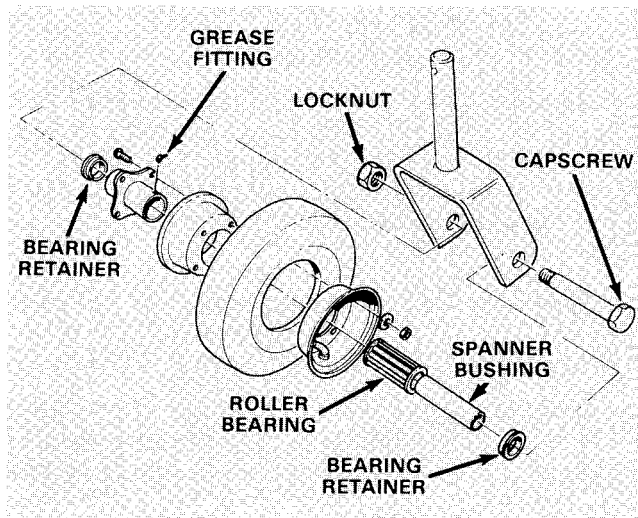

Figure 8
1. Remove locknut from capscrew holding castor wheel assembly between castor fork (Fig. 8). Grasp castor wheel and slide capscrew out of fork.
- Note:** Account for the two bearing retainers (Fig. 8).
2. Tip wheel to the side and allow roller bearing and spanner bushing to fall out (Fig. 8).
6. Pump more grease through grease fitting on wheel (Fig. 8) until bearing is greased thoroughly.